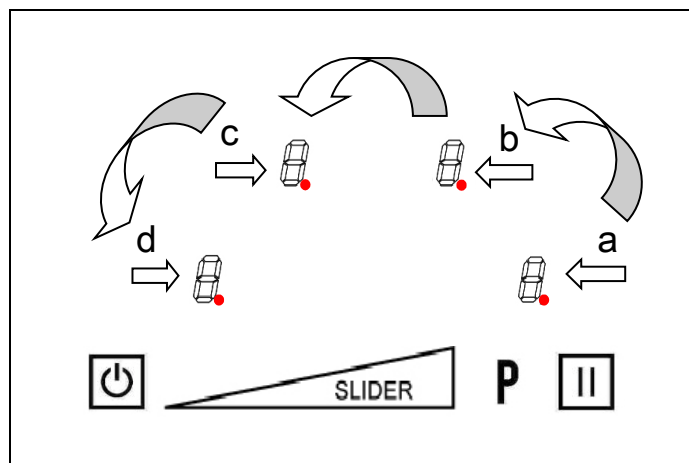

Fig. 17
- 3) With your other hand, press successively and quickly (less than 2s) on each  display. Begin from the front right side and turn contrary clockwise as described on the picture Fig. 17 (a -> b -> c -> d).
- If so, start again from item 1.